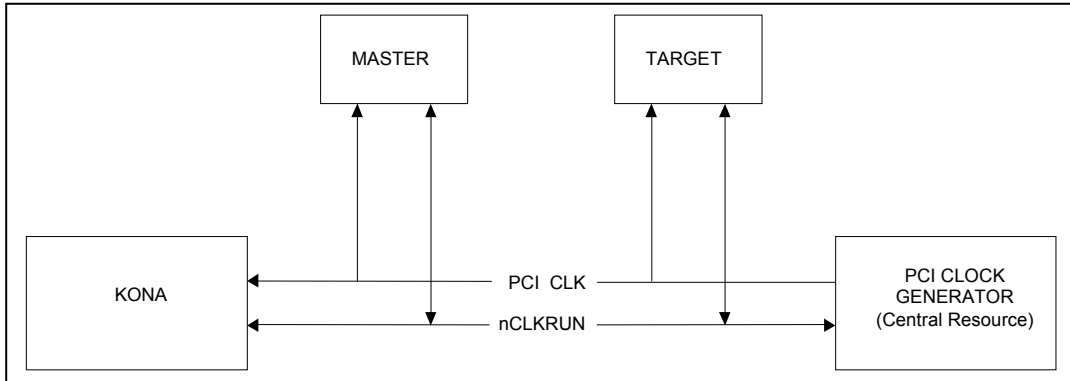
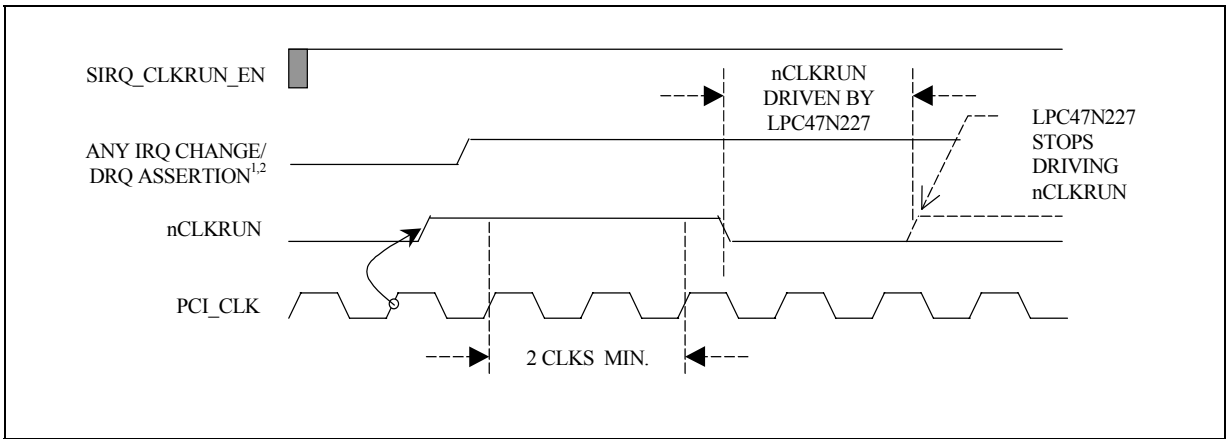

FIGURE 3 – nCLKRUN SYSTEM IMPLEMENTATION EXAMPLE
FIGURE 4 – CLOCK START ILLUSTRATION
The LPC47N227 supports the PCI nCLKRUN signal. nCLKRUN is used to indicate the PCI clock status as well as to request that a stopped clock be started. The LPC47N227 nCLKRUN signal is on pin number 28. See FIGURE 3 for an example of a typical system implementation using nCLKRUN.
If nCLKRUN is sampled “high”, the PCI clock is stopped or stopping. If nCLKRUN is sampled “low”, the PCI clock is starting or started (running). If a device in the LPC47N227 asserts or de-asserts an interrupt or asserts a DMA request, and nCLKRUN is sampled “high”, the LPC47N227 requests the restoration of the clock by asserting the nCLKRUN signal asynchronously (Table 47). The LPC47N227 holds nCLKRUN low until it detects two rising edges of the clock. After the second clock edge, the LPC47N227 disables the open drain driver (FIGURE 4).
The LPC47N227 will not assert nCLKRUN if it is already driven low by the central resource; i.e., the PCI CLOCK GENERATOR in FIGURE 3. The LPC47N227 will not assert nCLKRUN unless the line has been deasserted for two successive clocks; i.e., before the clock was stopped (FIGURE 4).
- Note 2: The LPC47N227 continually monitors the state of nCLKRUN to maintain the PCI Clock until an active “ANY IRQ CHANGE/DRQ ASSERTION” condition has been transferred to the host in a SER_IRQ/DMA cycle. For example, if “ANY IRQ CHANGE/DRQ ASSERTION” is asserted before nCLKRUN is de-asserted (not shown in FIGURE 4), the LPC47N227 must assert nCLKRUN as needed until the SER_IRQ/DMA cycle has completed.